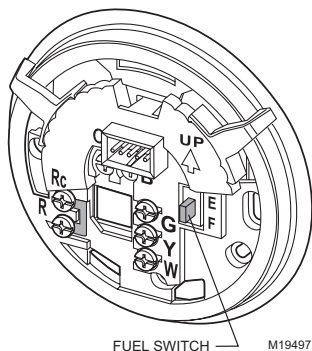

Fig. 3. Fuel switch.
- ❑ To adjust the fuel switch, locate the switch labeled E/F on the wallplate (see Fig. 3). The fuel switch is factory set in the F position. This is the correct setting for gas or oil systems. If you have an electric heat system, or a heat pump, set the switch to E. The E setting allows the fan to turn on immediately with the heating system where the G terminal is connected.